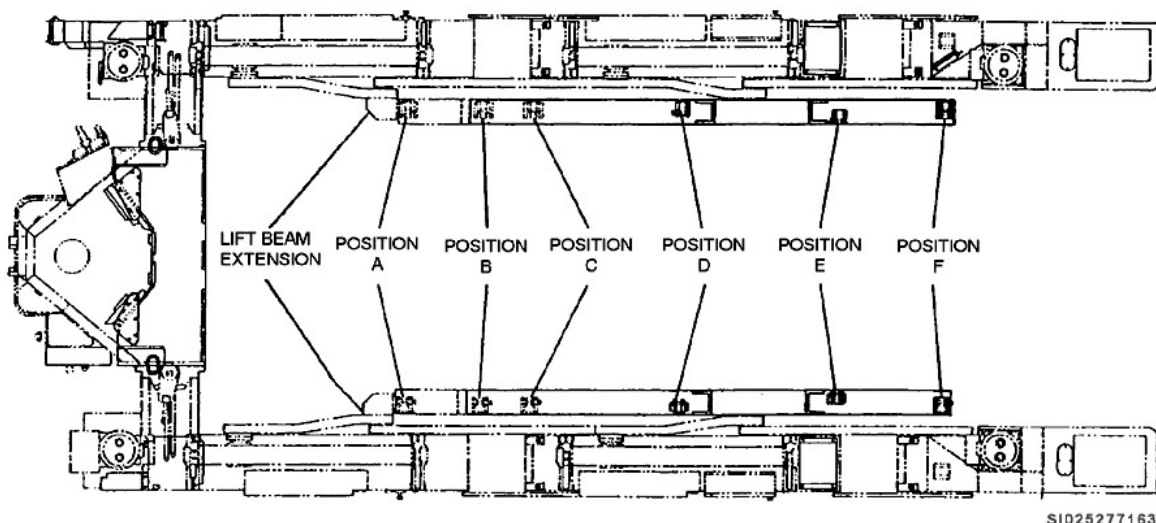

Figure 3-5. MHU-196/M attachment fittings and beam extensions.
1. Install forward lift beam extensions (fig. 3-5). They are *probably* already installed from a previous operation.
2. Install the forward pendulum and fixed attachment fittings on the left and right lift beam extensions in position “A” (fig. 3-5). These may have been previously installed. These fittings require position changes depending on whether or not the MHT is configured for a PLA or a LLA.
3. Install the aft pendulum and fixed attachment fittings on the left and right lift beams, respectively, in position “F” (fig. 3-5). These may already be properly installed. These fittings do not move between pylon and CSRL configured trailers.
1. Install forward pendulum and fixed attachment fittings on the left and right lift beams in position “B” (fig. 3-5). These are the fittings that require position changes depending on whether the MHT is configured for a PLA or a LLA.
2. Install aft pendulum and fixed attachment fittings on the left and right lift beams in position “F” (fig. 3-5). These fittings do not require movement between PLA and LLA configurations.